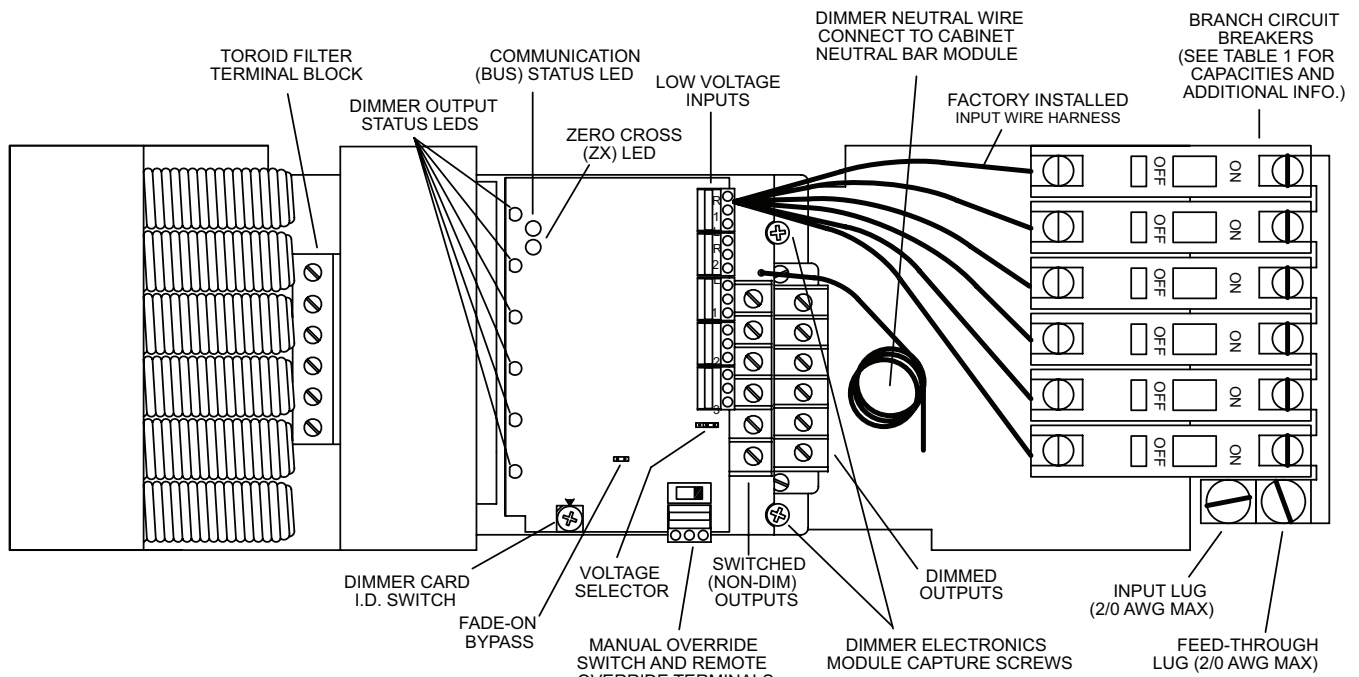

Figure 1 - Dimmer Module Layout
6. Verify the Zero Cross LED (ZX) on the dimmer module is on and blinking rapidly. (See *Figure 1*)
8. Remove the REMOTE OVERRIDE (RO) TERMINAL BLOCK (if installed) by grasping the terminal block and pulling it up and away from the circuit board.
9. Completely loosen the 6 screws on the TOROID FILTER TERMINAL BLOCK located between the heat sink and the toroids. (See *Figure 1*)
12. Unscrew the 2 captive mounting screws located on each side of the DIMMED OUTPUT TERMINAL BLOCK. (See *Figure 1*)